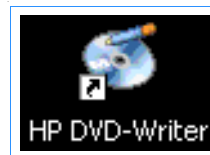

Figure 41 HP DVD-Writer Desktop Icon
- Double-click the **HP DVD-Writer** desktop icon (see Figure 41).